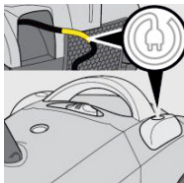
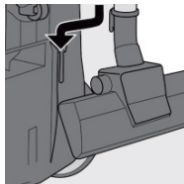
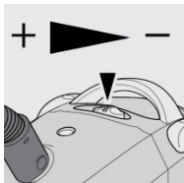

Figure 10
Figure 11
Figure 12
4. Switch on the vacuum cleaner by pressing the on/off button on the top cover (Figure 10).
- If necessary, stop cleaning for a short time, turn off the vacuum cleaner (Figure 10) and unplug the cord, rewind the cord (Figure 11) and insert the brush holder into a parking position, placing the tube in a convenient position (Figure 12).
WARNING: Risk of electric shock! If you see a red mark at the end of the power cord, rewind the power cord by pressing the rewind button. Pull the power cord up to the yellow mark (Figure 11).
WARNING: Risk of injury! Turn off the vacuum cleaner after cleaning (Figure 10) and rewind the power cord (Figure 11). When rewinding the cord, hold the plug in your hand so that the cord does not rush in different directions and does not injure you or surrounding people.